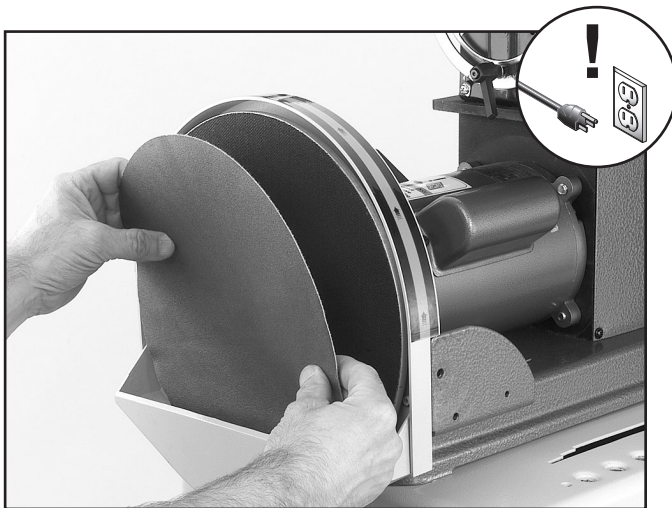

Figure 13. Installing PSA sanding disc.
1. Loosen the bolts that secure the table to the table support bracket as shown in **Figure 13**.